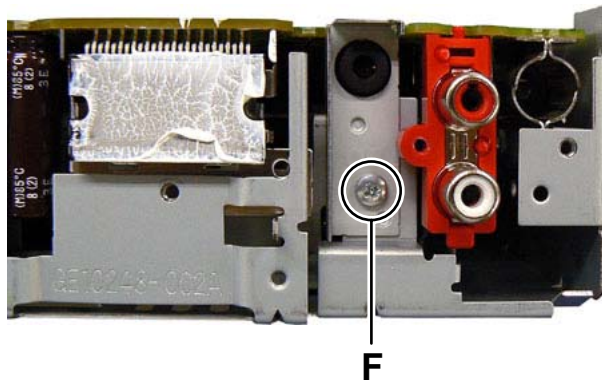

Fig.5
- (2) Remove the one screw **F** attaching the bracket. (See Fig.5)